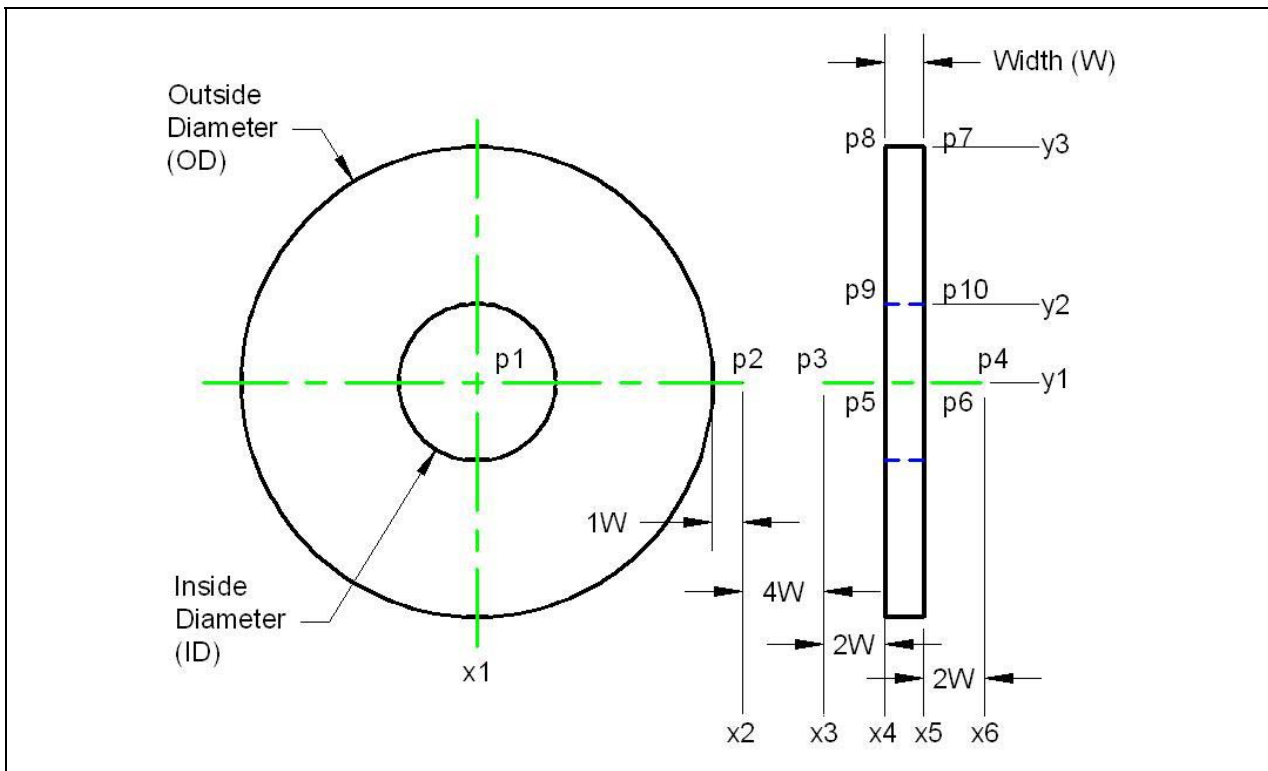

Figure 8.25 – Identifying the Variables for the Washer Program
In Figure 8.25, we have a drawing that shows an X and Y grid for each point we need to draw. In this program, we only need points 1 through 6. To create the points, we have made a grid with the values of x1 through x5 horizontally on the bottom and y1 through y4 vertically on the left. In the program, we will define point P1 as coordinate (x2, y1, z1), point P2 as (x4, y1, z1) and so forth. We have found that points are easily defined using this method and therefore explaining the algebra in the program is simpler.
The vertices or points are declared as double integers (As Double) with an array of zero to two (0 to 2). The vertex P1(0) represents the X coordinate, the P1(1) represents the Y coordinate and P1(2) represents the Z coordinate. Some may think that it is a waste of time to involve the Z-axis in a two dimension drawing, but we will incorporate the Z coordinate for designers that work in all three dimensions. For everyone else, we will just enter zero (0) in the Z coordinate textbox. We will declare points P1 through P10 for the vertices in the drawing in Figure 8.25.
With practice and a good sketch such as shown in figure 8.25, writing the mathematical section of the code can be done easily.